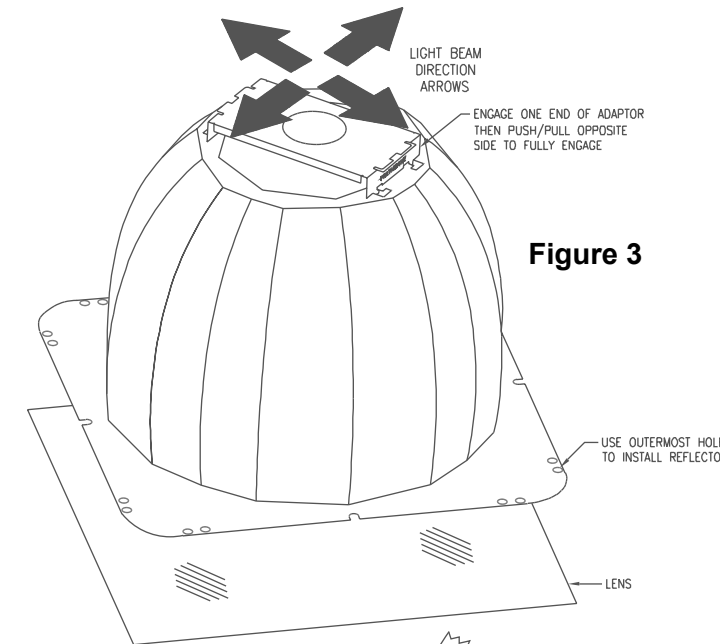

Figure 3
14. Locate socket adaptor packed in *bottom of outer reflector carton*. Attach socket adaptor to top of new reflector by engaging tabs on one end of socket adaptor into mating slots of reflector top. Then push/pull opposite side of socket adaptor to engage opposite side of reflector top. See Figures 3.